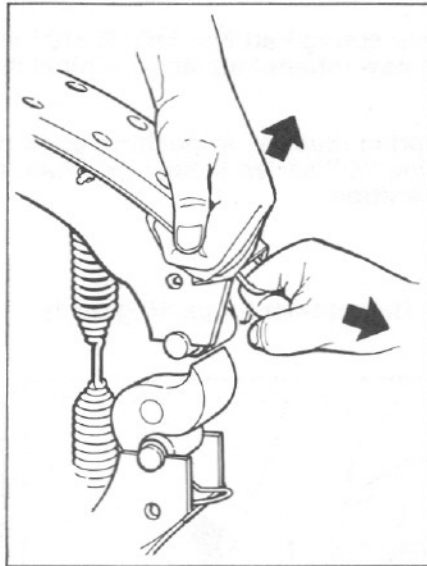

FIGURE 4
- B. While holding the shoe in this position, pull the retainer and roller from between the shoe webs using the finger grip. (Figure 4) Relieve pressure on brake shoe and allow webs to seat against cam.